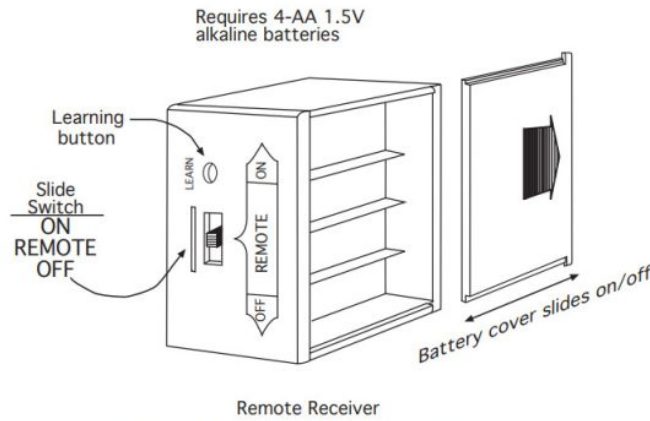

Fig. 11 Remote Receiver
First, install (4) AA-size 1.5 ALKALINE batteries in the remote receiver (Fig 11). For best performance, remote receiver batteries should be factory fresh when installed. The system operates best when battery output is greater than 5.3 volts. Four (4) new AA batteries should provide an output voltage of 6.0 to 6.2 volts. Be sure batteries are installed with the (+) and (-) ends facing the correct direction.